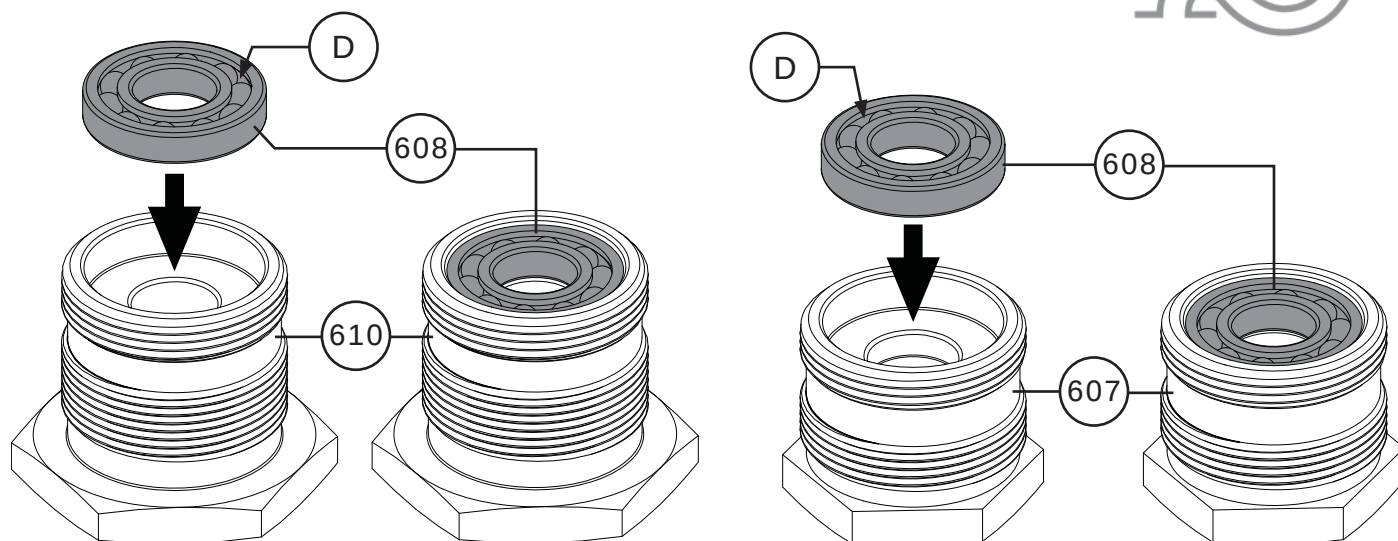

Figure 86 Ball Bearing Packing and Installation
- 1 Pack the ball bearings (Key 608) with Mobil Unirex™ Lotemp Grease (Key D) and insert one bearing into the back retainer flange (Key 607) and the other into the front retainer flange (Key 610). Refer to Figure 86.